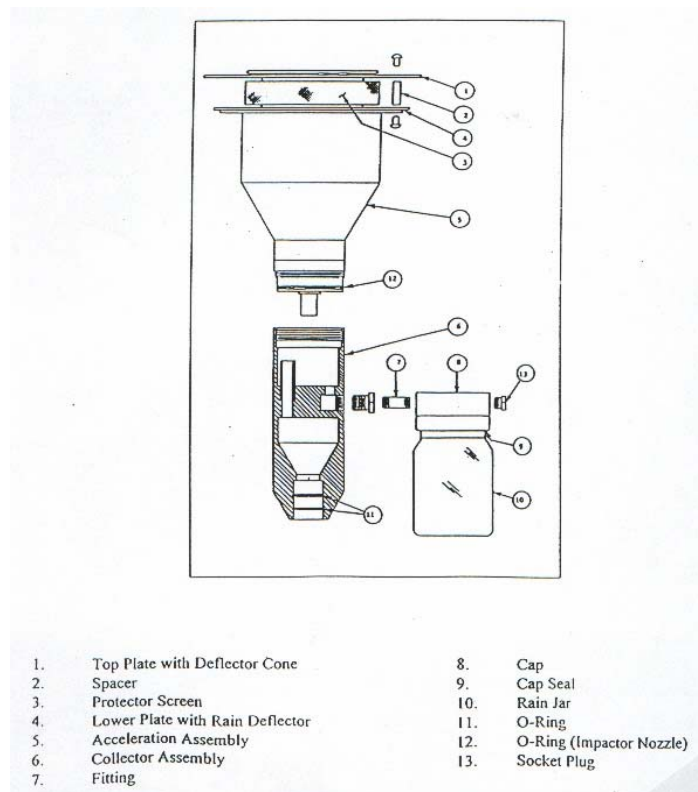

Figure 3 – PM₁₀ inlet assembly
3. Separate the upper and lower inlet halves by unscrewing the acceleration assembly from the collector assembly as shown in Figure 3.